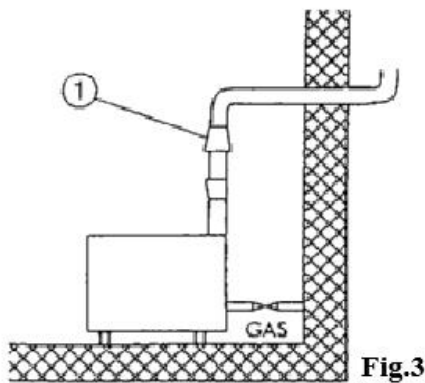
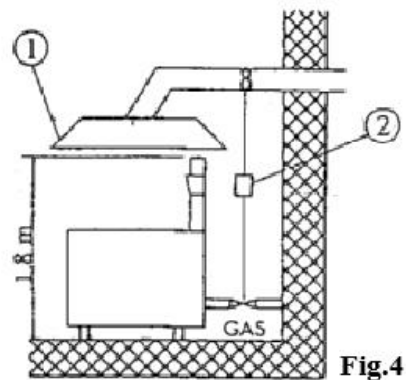

Fig.3
Fig.4
Natural evacuation (fig.3)
Forced evacuation (fig.4)
- 1 Windproof fume stack (fig.3) - Extractor hood (fig.4)